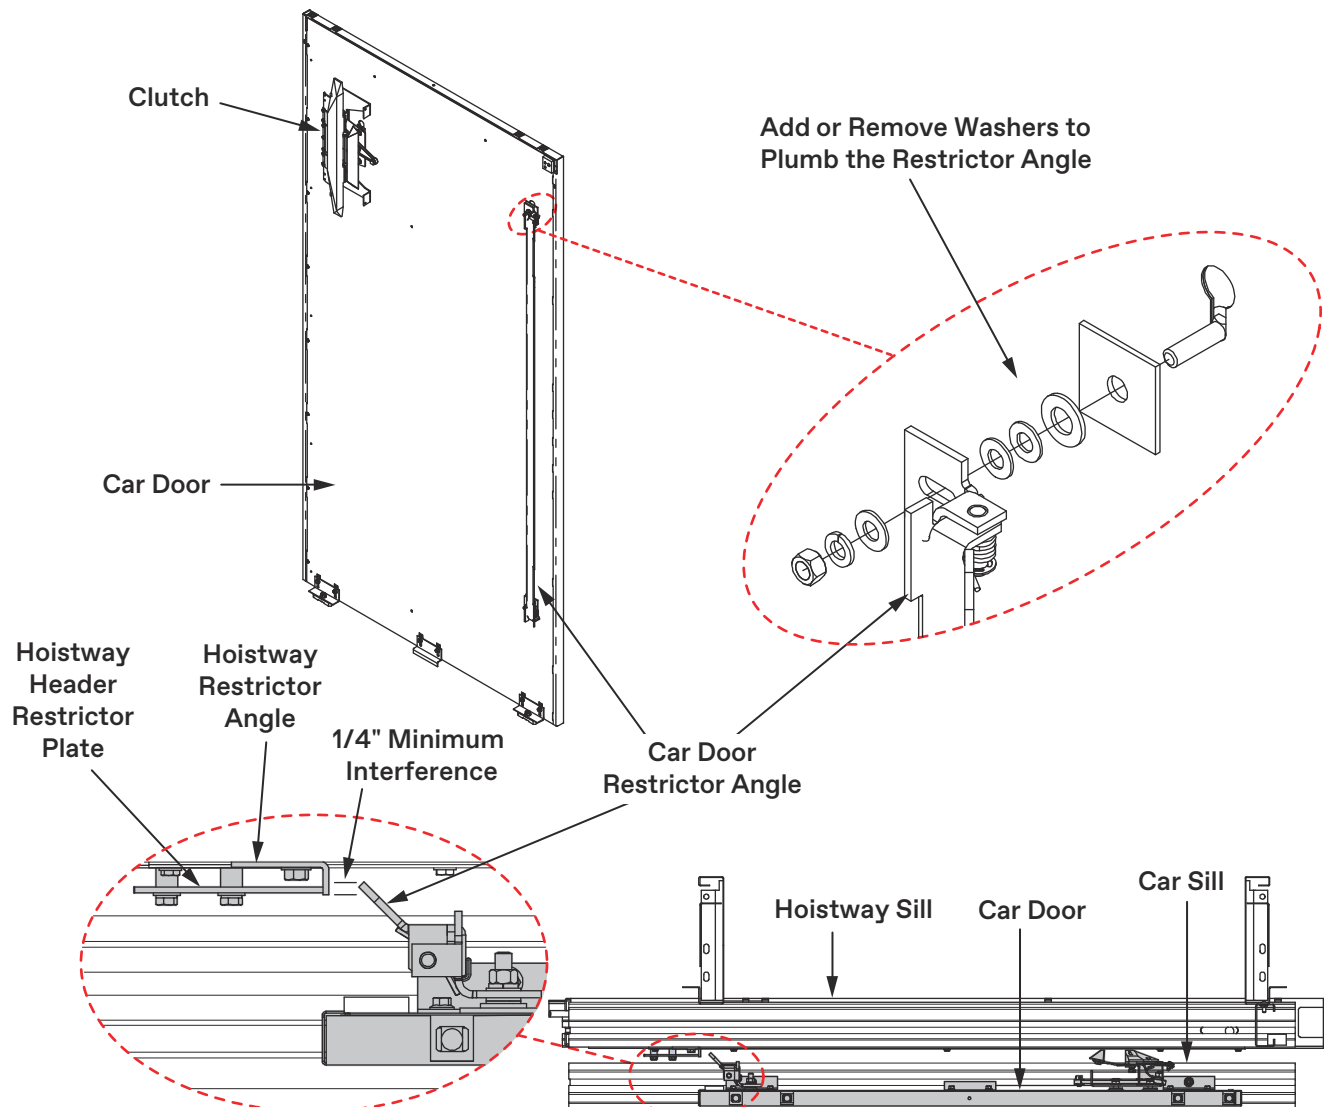

Figure 17 - Install the Car Door Restrictor Angle
2. Use washers to adjust the car door restrictor so that it is plumb and a $\frac{1}{4}$ " minimum interference when the car door restrictor engages the hoistway restrictor angle. See Figure 17.